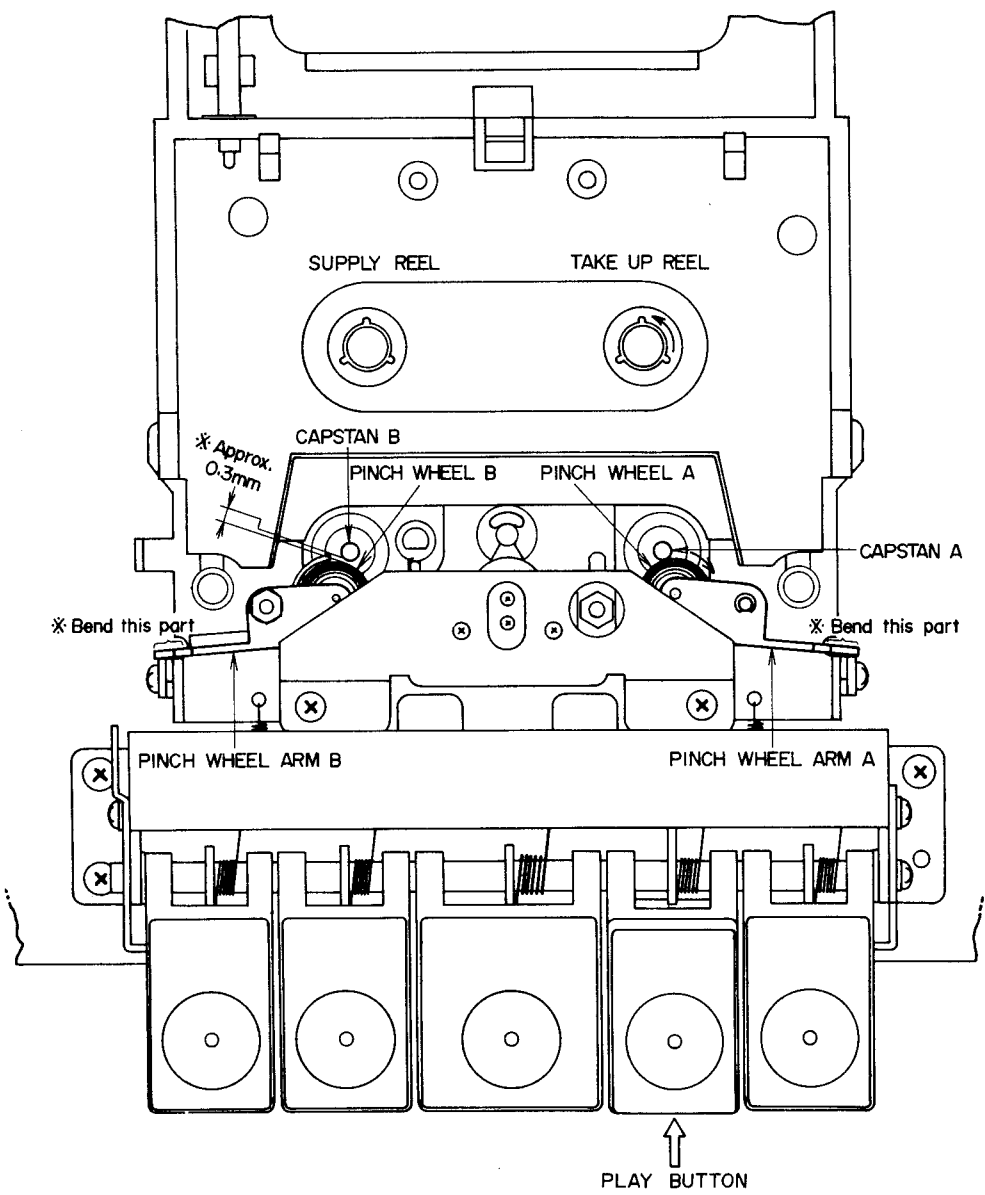

Fig. 1
(Refer to Fig. 1)
- 2) If necessary, adjust Pinch Wheel A, and Pinch Wheel B rotating order and timing by bending the extended parts of Pinch Wheel Arms A and B as shown in Fig. 1.